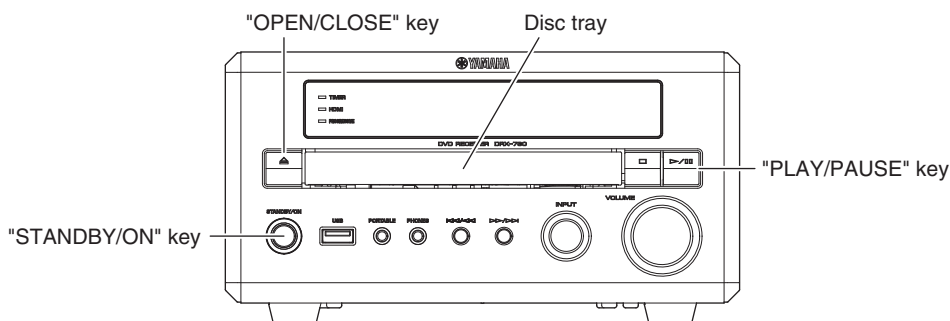

Fig. 8
3. Press the "STANDBY/ON" key of this unit to turn on the power. (Fig. 8)
4. Press the "OPEN/CLOSE" key of this unit to open the disc tray. (Fig. 8)
7. Press the "PLAY/PAUSE" key of this unit, and then writing of the firmware is started. (Fig. 8)